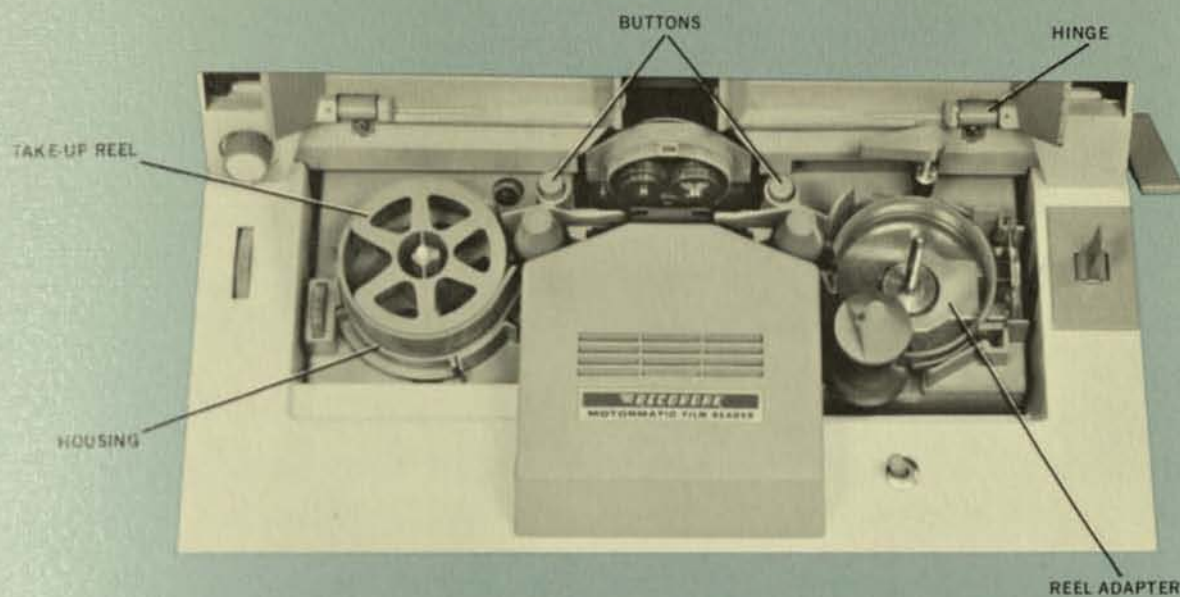

FIGURE 11
2. Remove the mechanism cover. A screw and nut fastens each COVER HINGE, figure 11, to the screen frame.